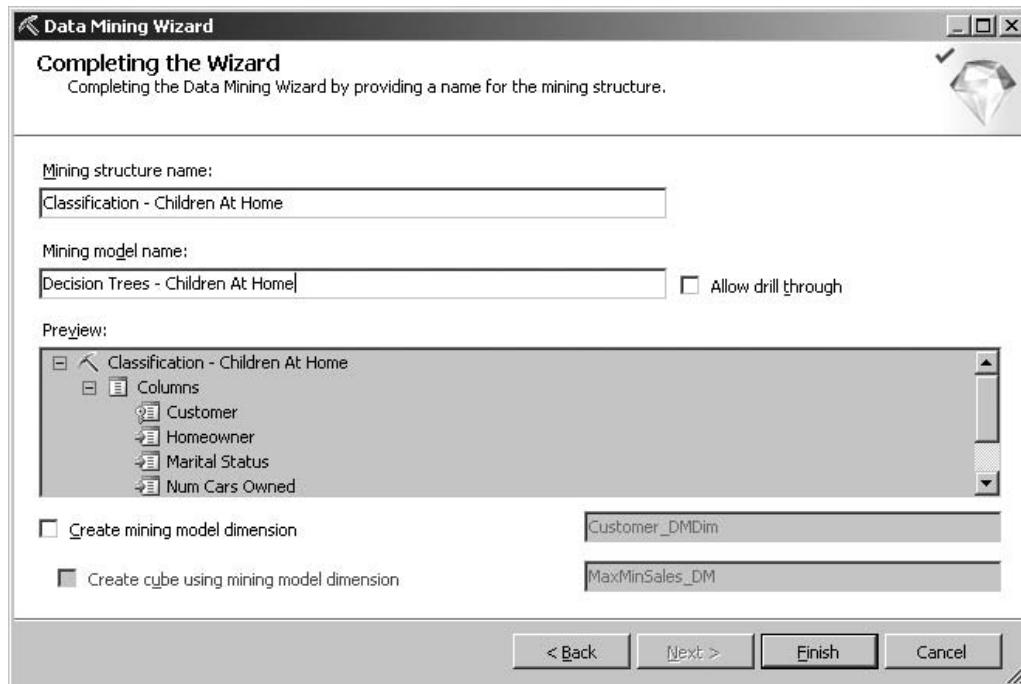

Figure 14-11 The Completing the Wizard page of the Data Mining Wizard
41. Enter **Decision Trees—Children At Home** for Mining model name. The wizard page appears as shown in Figure 14-11.